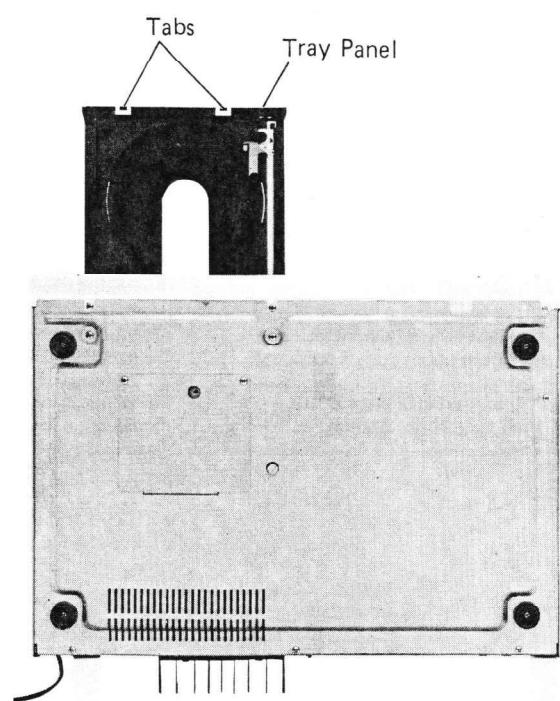

Figure 5
4. Remove holder tray panel, while pushing tabs which fix holder tray panel. (Figure 5)